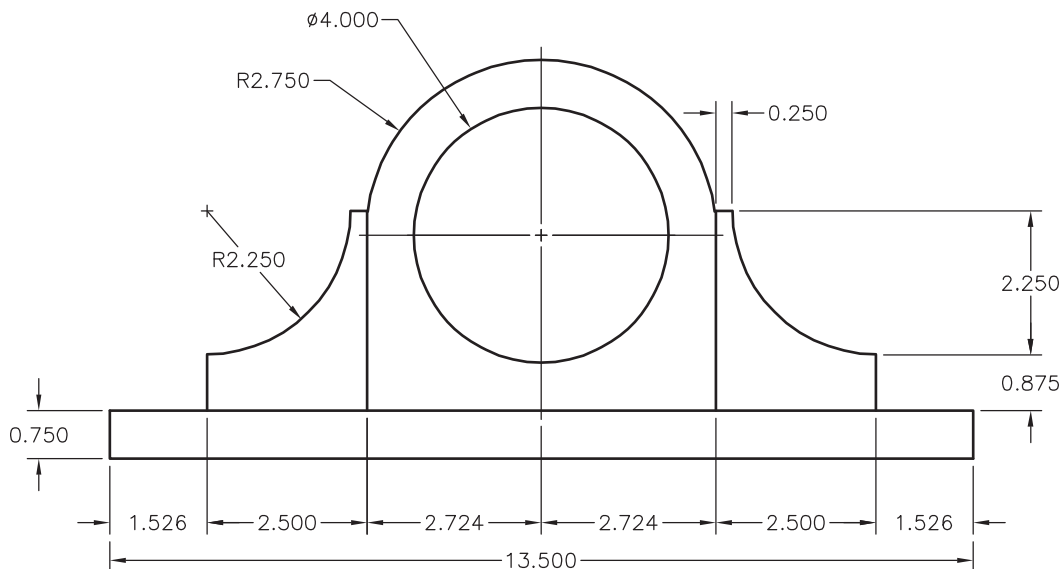

Fig. 5-22
2. The traditional mantle clock body drawing shown in Fig. 5-22 is necessary for the reconstruction of antique and collectible clocks. Draw the clock body. Do not include dimensions. Save your drawing as **mantle.dwg**.